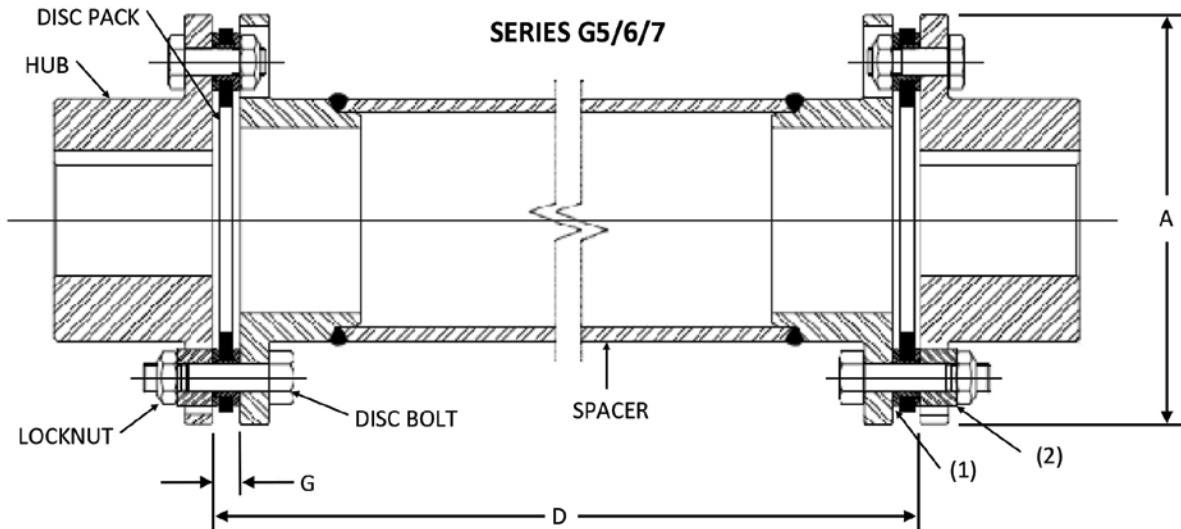
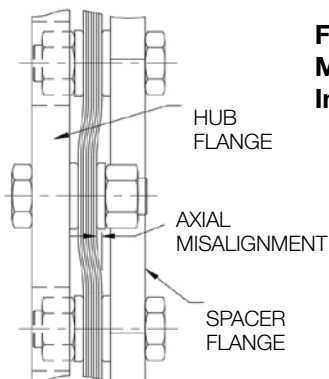

Fig. 1: Coupling Nomenclature
Fig. 2: Excessive Axial Misalignment at Installation
7. The distance 'D' between shaft ends and/or flange faces, see Fig 1, should match the target dimension within +/- 25% of the coupling's axial capacity as given in Table 1. Generally speaking the axial error at installation should not be visible to the naked eye - see Fig. 2. Reference the coupling drawing for configurations not similar to Fig 1.
9. Install disc packs, bolts, and nuts at each end of the coupling. See Fig 1 for proper bolt and washer orientation. Coat all bolt threads and nut faces with anti-seize thread compound and tighten all to a light snug fit only. Read the following sections before tightening bolts.
11. The average gap dimension 'G' as shown in Fig 1, at each disc pack, should be within the value given in Table 1 +/- 12.5% of the coupling's axial capacity.